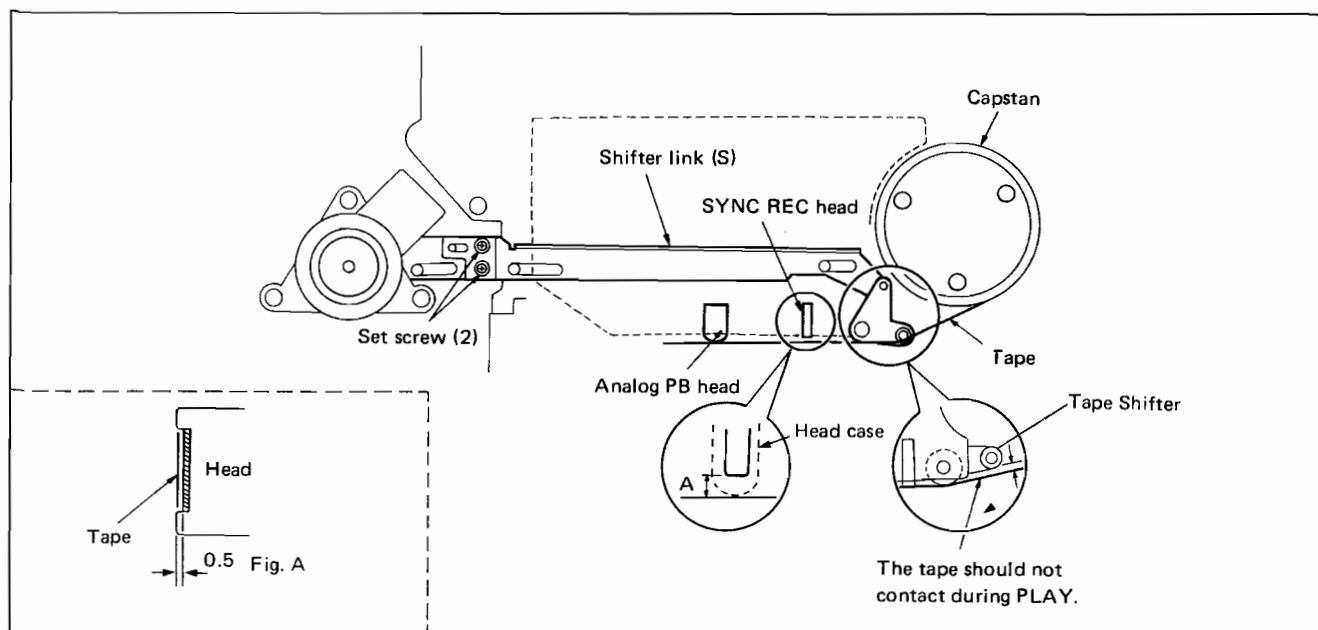

Fig. 5-11-1.
Visually, adjust the position of the shifter and fix by using the two set screws so that the dimension "A" (in Fig. 5-11-1) is 0.5 mm at a position of the tape shifter.
- Adjust the position by using the two set screws on the shifter link (S) so that the tape is placed on top of the head (during tape loading in the STOP mode). (Refer to Fig. A in Fig. 5-11-1.)